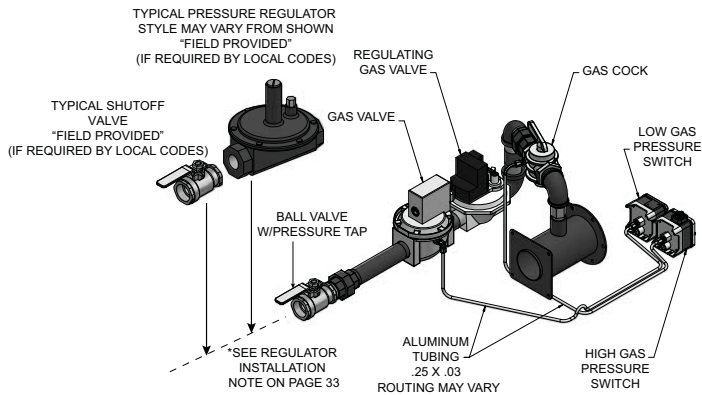

Figure 3-3A_PB/PF 502 - 1302 F9 High & Low Gas Pressure Switches
- Figures 3-3A, B, and C on page 33 show piping connections for high and low gas pressure switches for respective Power-fin models.